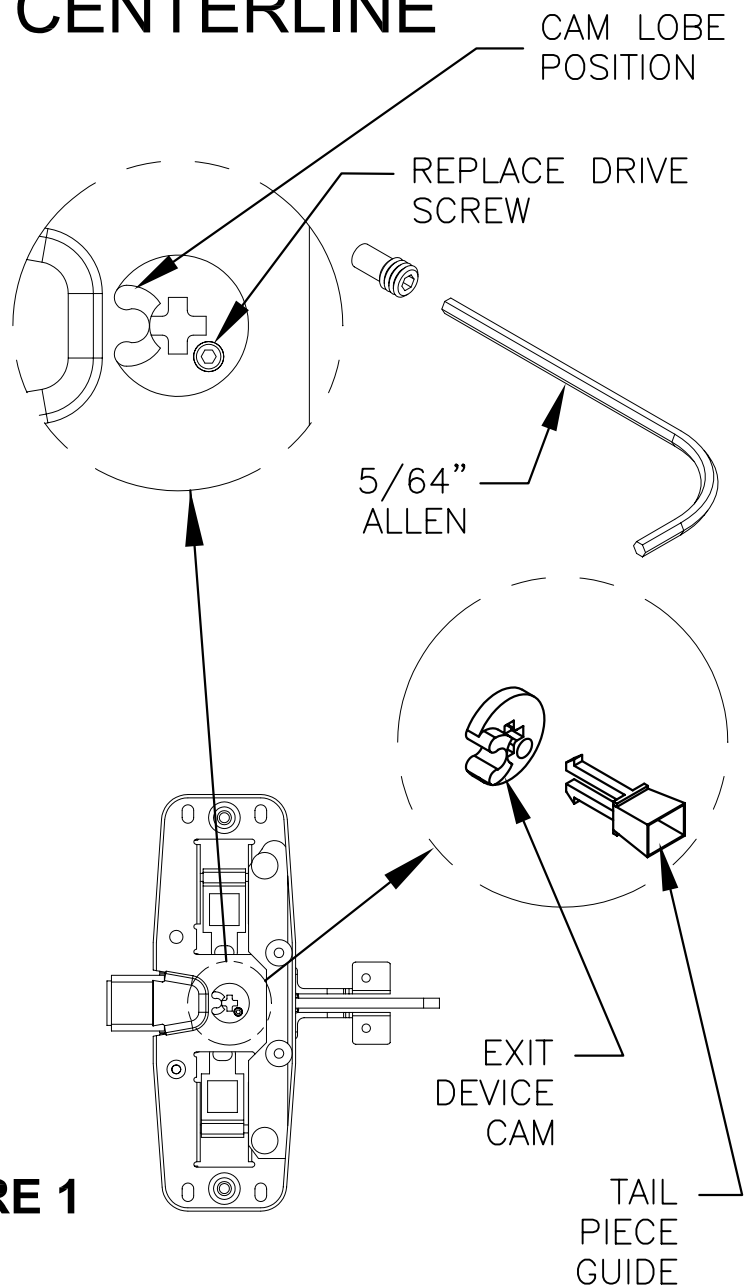

FIGURE 1
3. INSURE THAT THE VON DUPRIN TAIL PIECE GUIDE IS INSTALLED IN THE HORIZONTAL POSITION IN THE EXIT DEVICE CAM. (REFER TO FIGURE 1, PAGE 2)
4. IF THE TRIM WAS K, L, OR TP FUNCTION, REPLACE THE DRIVE SCREW IN THE EXIT DEVICE CAM TO PROVIDE THE NIGHT LATCH FUNCTION. (REFER TO FIGURE 1 PAGE 2).